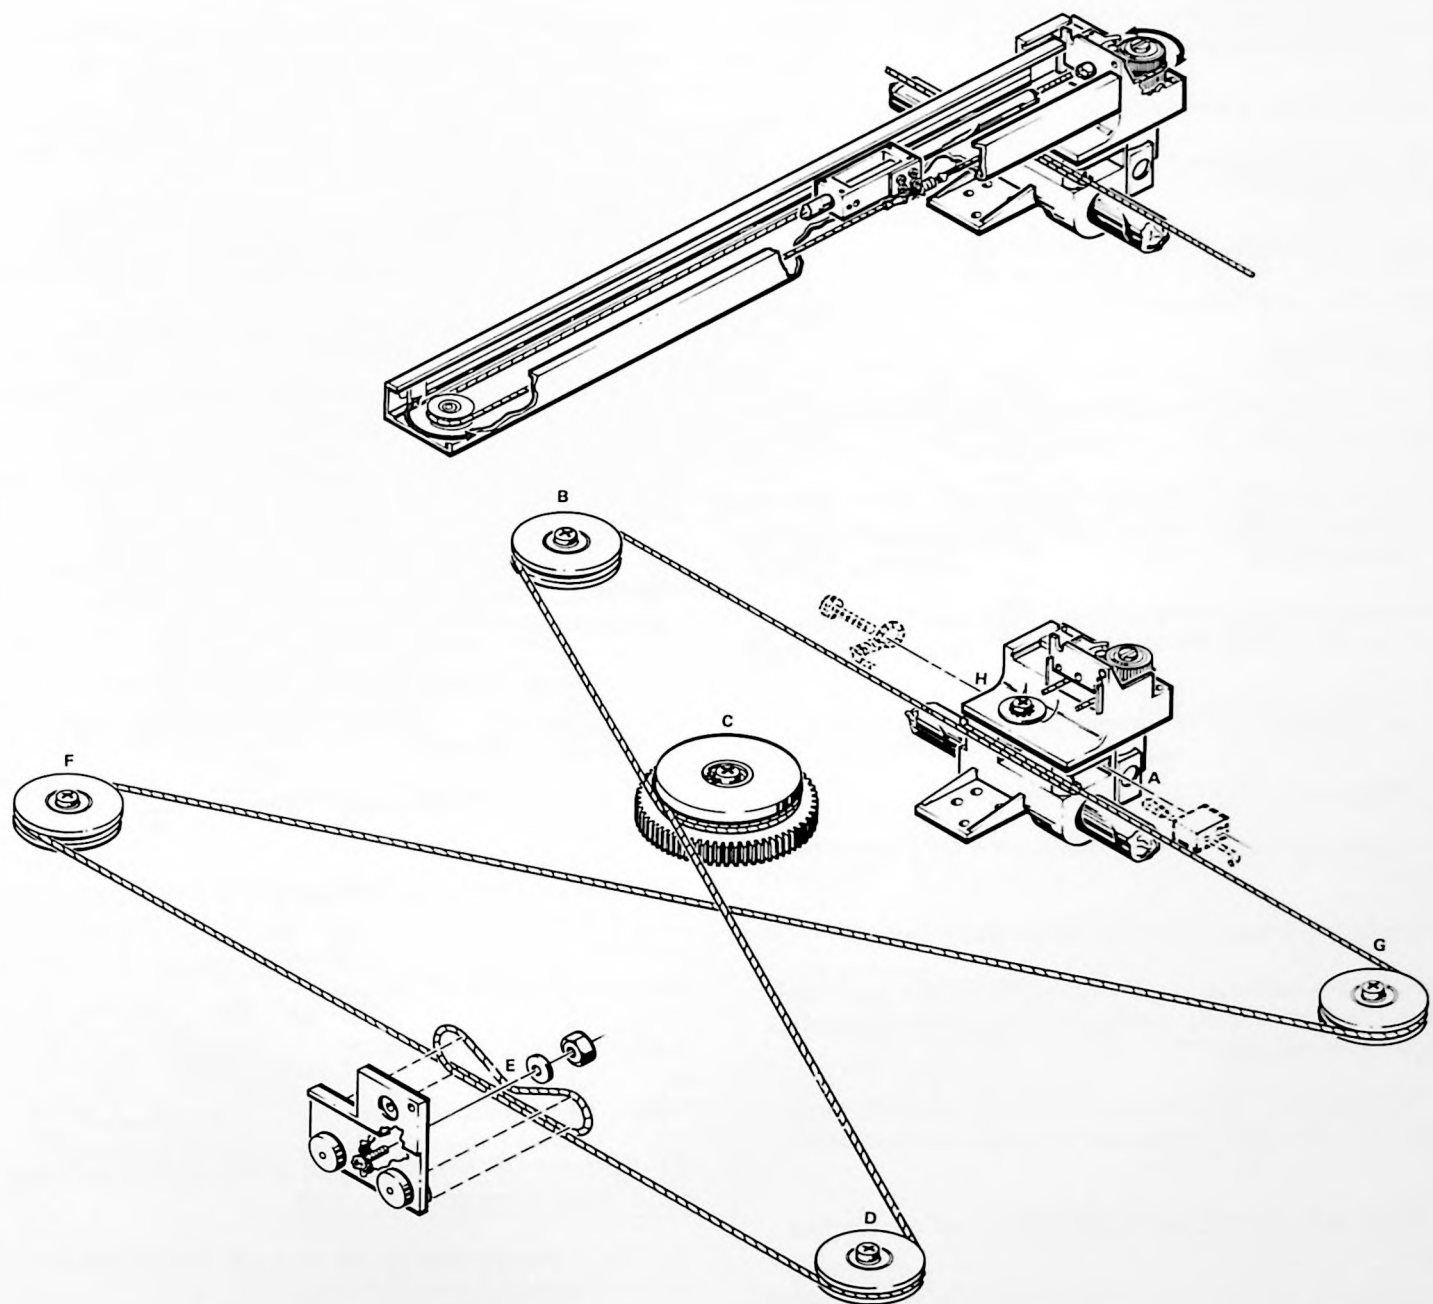

Figure 5-11. X and Y-Axis Restraining, 7045B Model
d. Using X-axis cable assembly, Part Number 07041-60009 insert plastic adjustment block into hole in slider block (Point A). See Figure 5-11. Place screw in slider block and thread into plastic adjustment block. Route cable in counterclockwise direction around pulley (Point B) to drive pulley (Point C). Loop in counterclockwise direction around pulley two times. Proceed to lower right corner pulley (Point D). Loop in clockwise direction around carriage arm block (Point E) going on inside of pulley to left corner pulley (Point F). Pass cable under previous stringing to loop around last pulley in right upper corner (Point G). The stringing terminates at the other end of slider block (Point H). Remove screw holding plastic adjustment block. While holding block in position, insert screw through cable loop and into slider block.